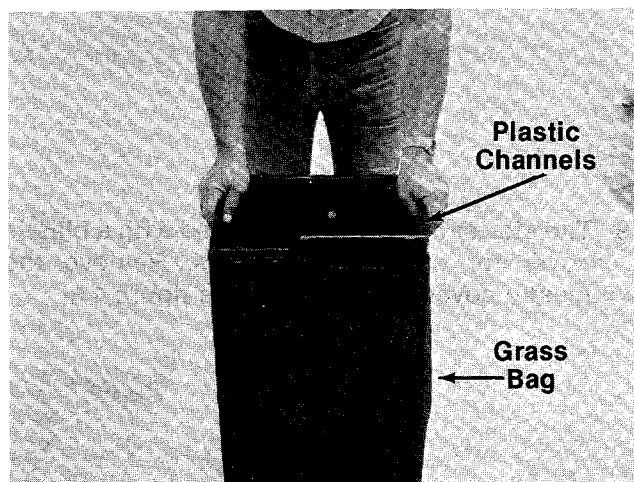

FIGURE 14.
3. Secure bag to frame by slipping plastic channels on bag over frame. See figure 14.